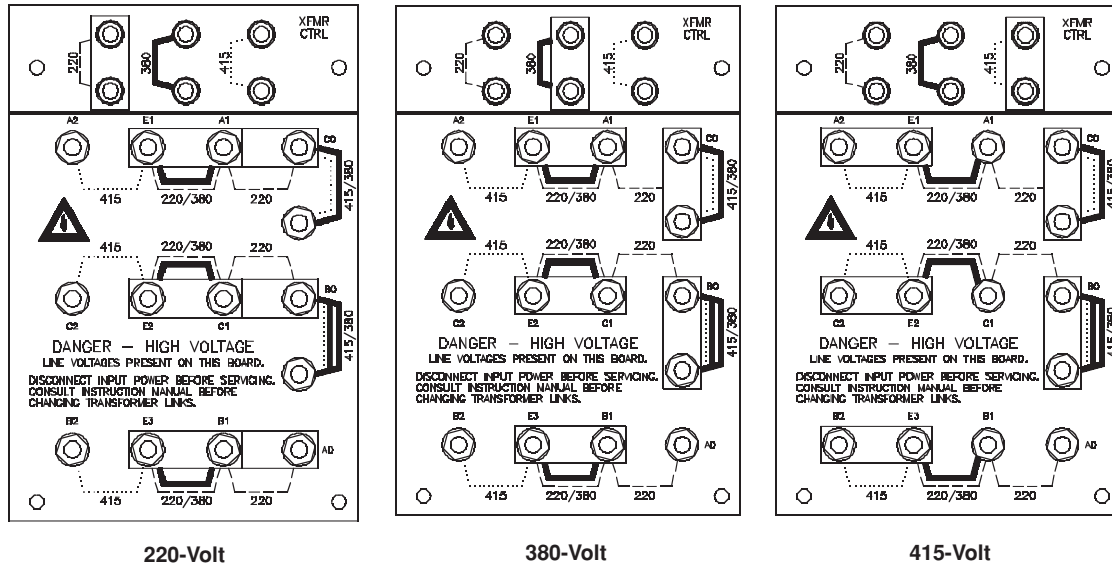

Figure 3-3 220/380/415V Linkboard Configurations
- The 220/380/415-volt, 3PH, 50/60 Hz power supplies (078074) are normally shipped from the factory set up for 380-volt operation, unless otherwise specified. To change the power supply to a different voltage (220 or 415 volts), the links must be moved (Figure 3-3).